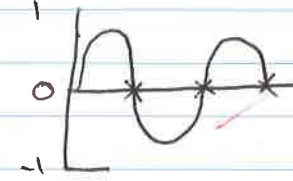

Figure 1
- b) Zero cross detection occurs when a sine wave crosses the zero point. This is marked in Figure 1 with crosses. When the AC waveform crosses the zero point the PIC detects this and is able to turn off the triac as needed. This allows for more efficiency in the design & removes the need for a DIAC to control the Gate of the triac.